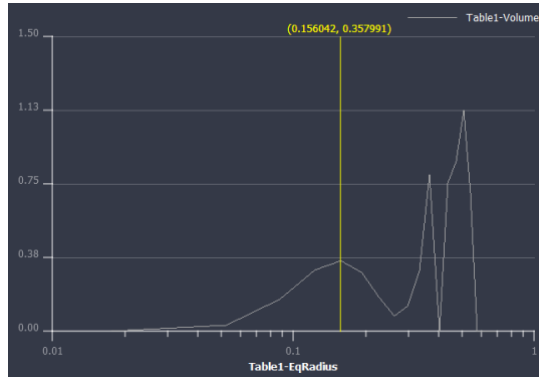

Figure 18.20: Pore Size Distribution
- The distribution curve as shown in Figure 18.20 is displayed using a *Plot Spreadsheet*